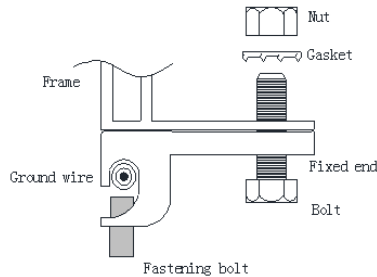

Figure 7: Grounding the aluminum frame with a copper wire
- Use the marked 5.5 mm grounding holes to ground the anodized aluminum frame. Use an M5 nut, an M5 gasket, and an M5 bolt, fastening bolt and a ground wire. All nuts, bolts, and gasket should be made of stainless steel. See *Figure 7*.